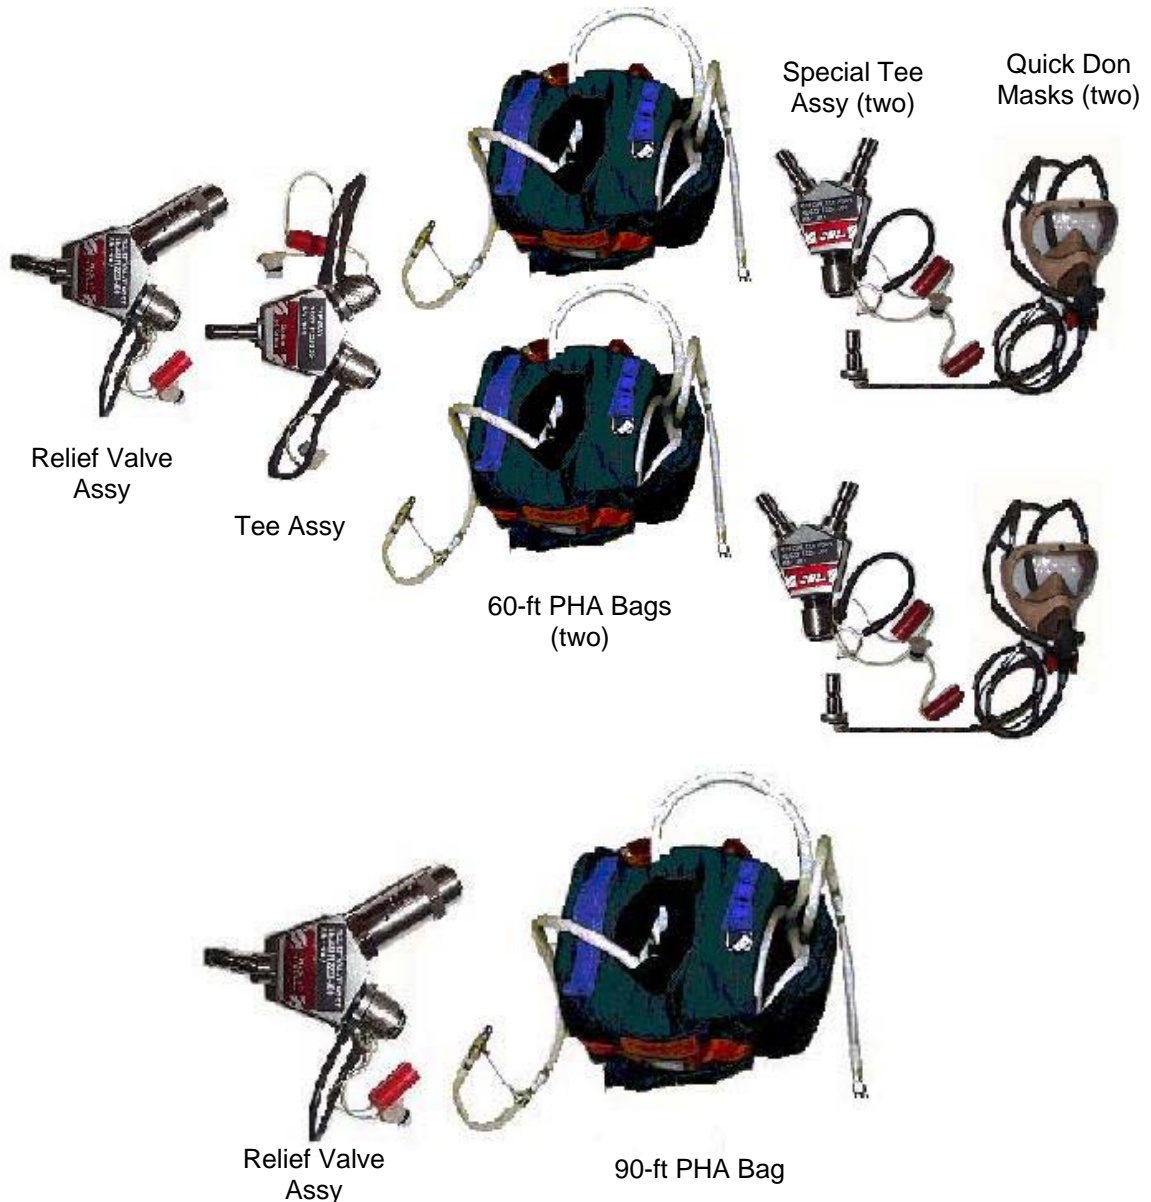

Figure 2.- Prebreathe Hose Assemblies (PHA) Shuttle O2 Use Configuration.
28. ✓PHA configuration per Figure 1 or Figure 2 as required